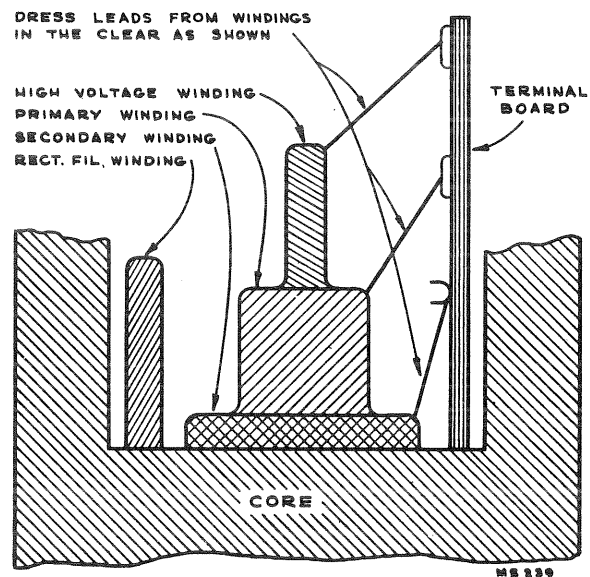

Figure 12—T110 Lead Dress
15. Dress T110 winding leads as shown in Figure 12.
- Figure 12—T110 Lead Dress